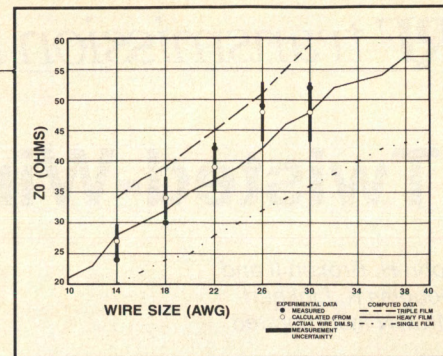

Figure 5. Effect of wire dimensional tolerances on characteristic impedances (heavy film).
Small perturbations in wire diameter and insulating film thickness can have a large effect on the characteristic impedance. Figure 5 shows ranges of characteristic impedance for variations in wire diameter and film thickness within the tolerance range of various size Poly-Thermaleze heavy film wires. In order to accurately characterize a twisted-wire transmission line, the designer must know the precise dimensions of the wire to be used. Transmission line insertion loss and power handling capability depend strongly on the type of dielectric film on the wire (6). To verify this, we tested transmission lines made from two Phelps Dodge wires with different film coatings: Nyleze and Poly-Thermaleze. Poly-Thermaleze film has a lower dissipation factor than Nyleze. The insertion losses of 40-foot lengths of these two transmission lines differed by nearly 2 dB at 10 MHz.